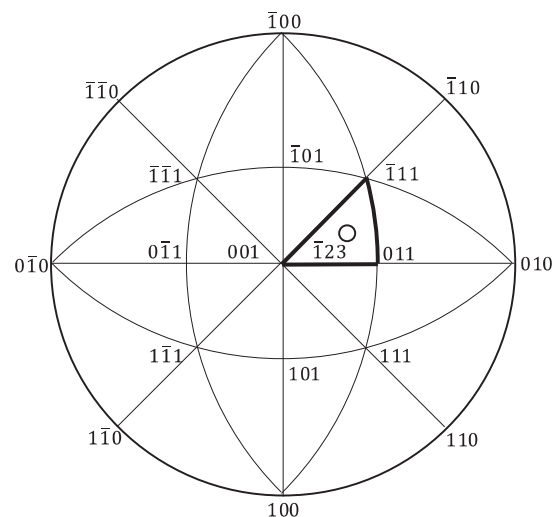

Figure 2
- (2) Suppose that the specimen is a face-centered cubic single crystal and that the direction of the tensile axis is $[\bar{1}23]$. Given that the slip system of the face-centered cubic crystal is $\{111\}\langle 110\rangle$, show the indices of the primary slip plane and direction, and derive the resolved shear stress acting on the primary slip system. You may refer to the stereographic projection shown in Figure 2.
- (3) Show the index of the cross-slip system with respect to the primary slip system obtained in (2), and derive the resolved shear stress acting on the slip system.